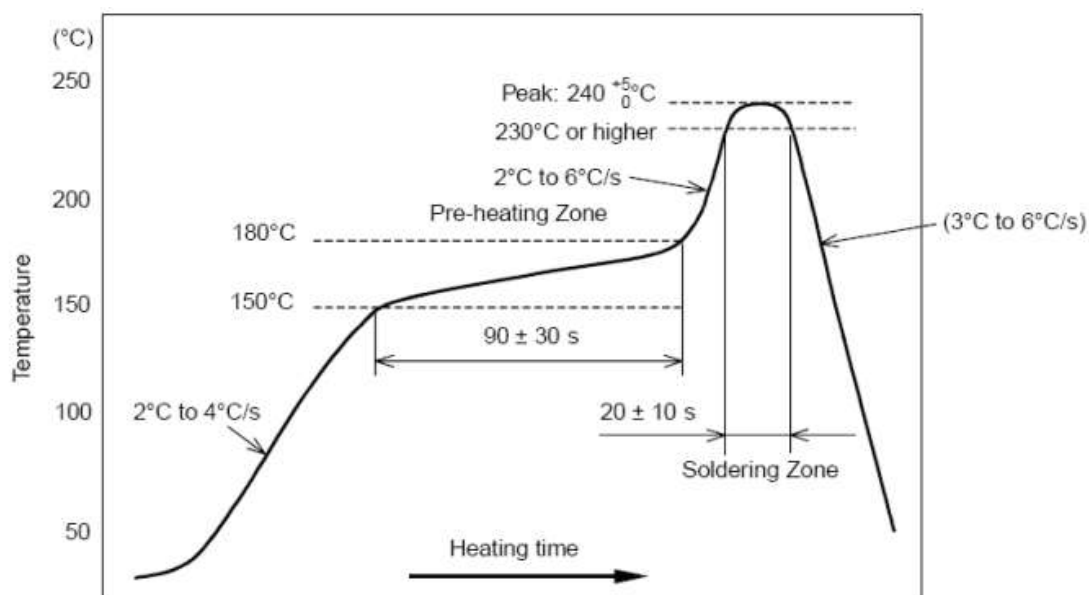

Figure 4 Parts' heat-resistance temperature curve for welding(welding point)
2. Times allowed to reflow: 2 times, for the below reflow (conditions) (figure 4) ;
3. Temperature curve: the reflow should be in accordance with the temperature curve shown below (figure 4);